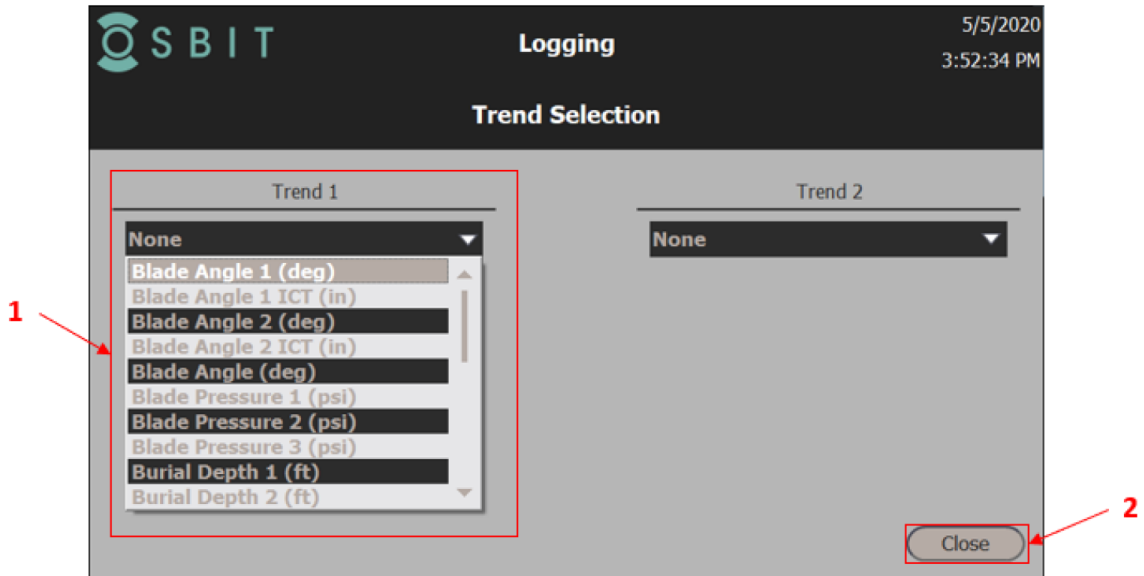

Figure 5 - Logging Trend Selection Page - Plow Control System
- Logging Trend Selection Page – See Figure 5